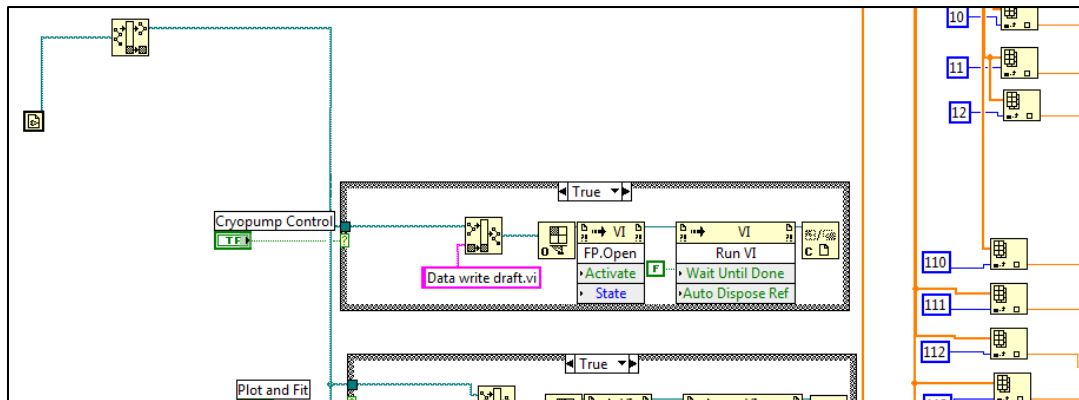

Fig.9. One Part of Block Diagram of ESIII EXO Gas Phase.vi
Then, select the *Data Channel*, and the *Start Time* and *End Time*, then hit *Grab data*. The plot will be displayed in Fig 9.
- When you hit *Save Image* Button (In Fig.9), the *window.vi* will report error: